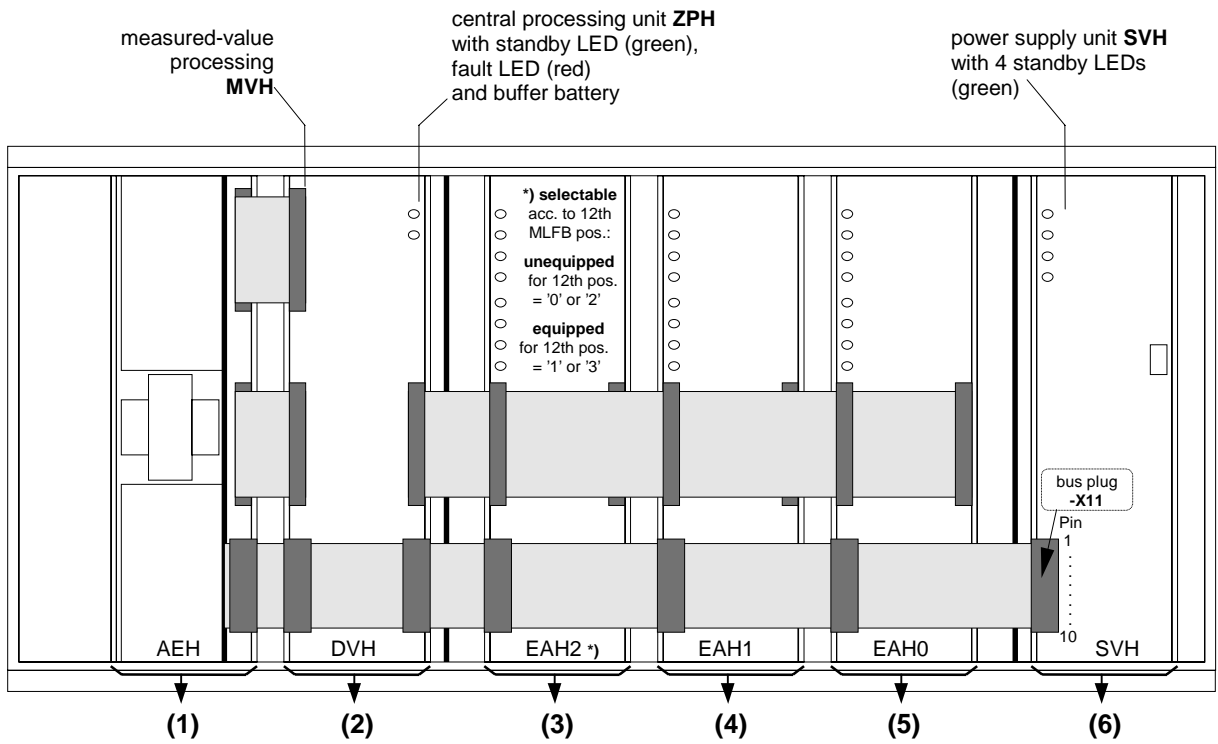

Figure 1: Front view of 7SA513 when front door is open (simplified),
- EAH extension (binary input/output modules; pos. (3), (4), (5) in figure 1): the MLFB code, which pertains to the ordered device, has been software-implemented by the producer and will appear in the display. The 12th MLFB position denotes the EAH extension (e.g. 2 EAH or. 3 EAH modules). Up to version V2.12 the actual number of extant EAH modules have not been verified by the software. In versions V2.2\*/V3.\*\*, the number of the plugged-in EAH modules are compared to the number, recorded in the implemented MLFB code. In case of deviation, the device will go into the monitor subroutine (malfunction of device).
Corrective measures: Number of EAH modules (i.e. excluding/including module EAH2 in pos. (3) as in figure 1) must correspond to the number shown in the implemented MLFB code. Before carrying out a firmware update, write down the MLFB code (address 0 or 0000). Check and, if necessary, modify the EAH configuration of the device.
21. Insert the DVH module into the housing; ensure that the module is firmly pushed in. Carefully re-connect the ribbon cables, which connect the DVH-module (see fig. 1, pos (2)), with the other modules. Be careful, that no terminal pins suffer injury (bending). Then re-connect the ribbon cables from the front panel; take care for correct polarity:
- 27.2 Remove the bus plug **-X11** from the power supply module **SVH** (see fig. 1).
- 27.3 Connect a digital-voltmeter to pin 2 (positive pole +5V) and pin 5 (negative pole -5V) of the plug connector X11 (SVH-module). Pin-location see fig. 1.
- 27.15 Replace the bus plug **-X11** to the plug connector X11 of the power supply module **SVH** (see fig. 1).